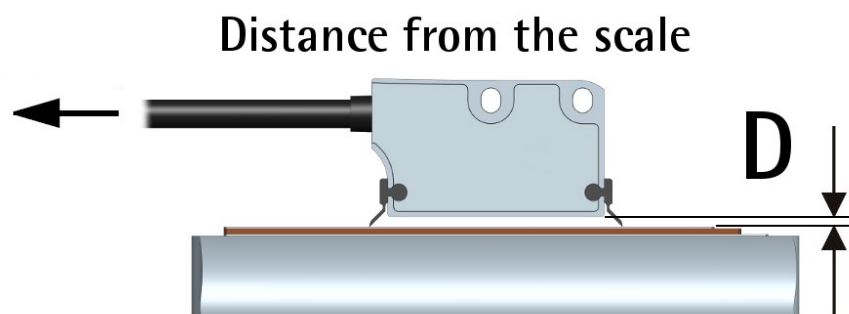

Figure 1 - Encoder / tape mounting gap
You can mount the readhead in both directions over the tape. The arrow in Figure 1 indicates the **standard counting direction** (the rising edge of A signal leads the rising edge of B signal) when the sensor moves in the direction indicated by the arrow; further information in the "4.7 Counting direction" section on page 19.
The distance D (see Figure 1) between the bottom of the encoder and the MT50 magnetic scale must be as follows:
The positive counting direction (the rising edge of A signal leads the rising edge of B signal) is achieved when the sensor moves on the tape according to the arrow shown in Figure 1. For further information see the "4.7 Counting direction" section on page 19.
3.7 Optional cleaning wipers (Figure 1)